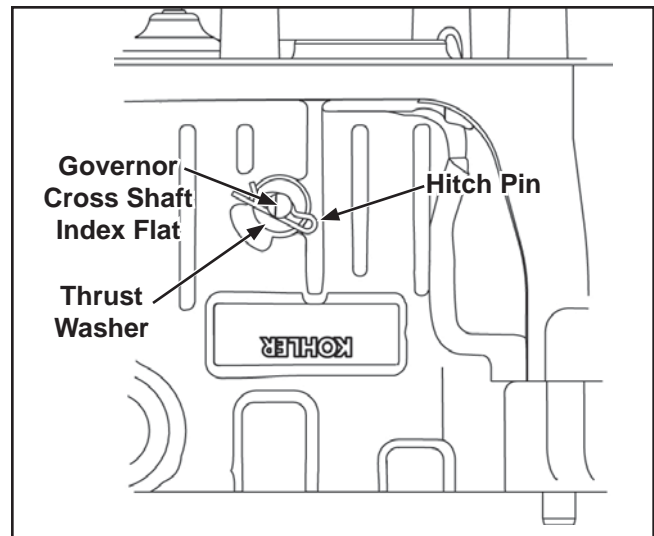

Figure 11-9. Installing Thrust Washer and Hitch Pin.
4. Install the second flat washer onto the shaft. Position the shaft so the flat index end of the shaft faces to the left (9 o'clock position) and install the hitch pin so the end of the pin comes in contact with the raised boss on the housing, limiting inward movement of the shaft. See Figure 11-9.